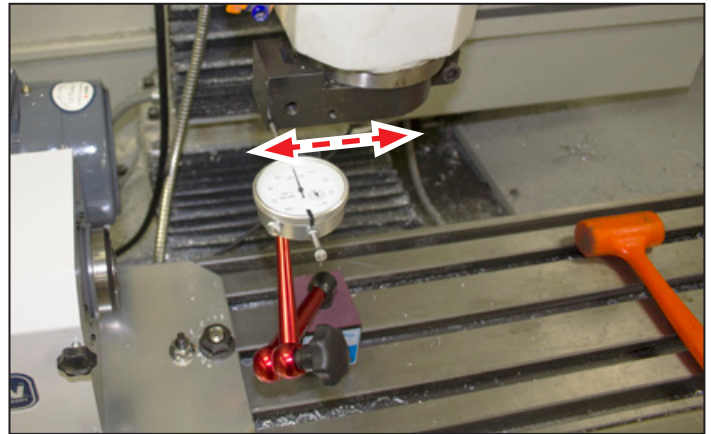

Figure 2.19
4. Attach magnetic dial indicator to machine table; position indicator tip so that it may be swept along front face of Universal Spindle Arm (see **Figure 2.19**).